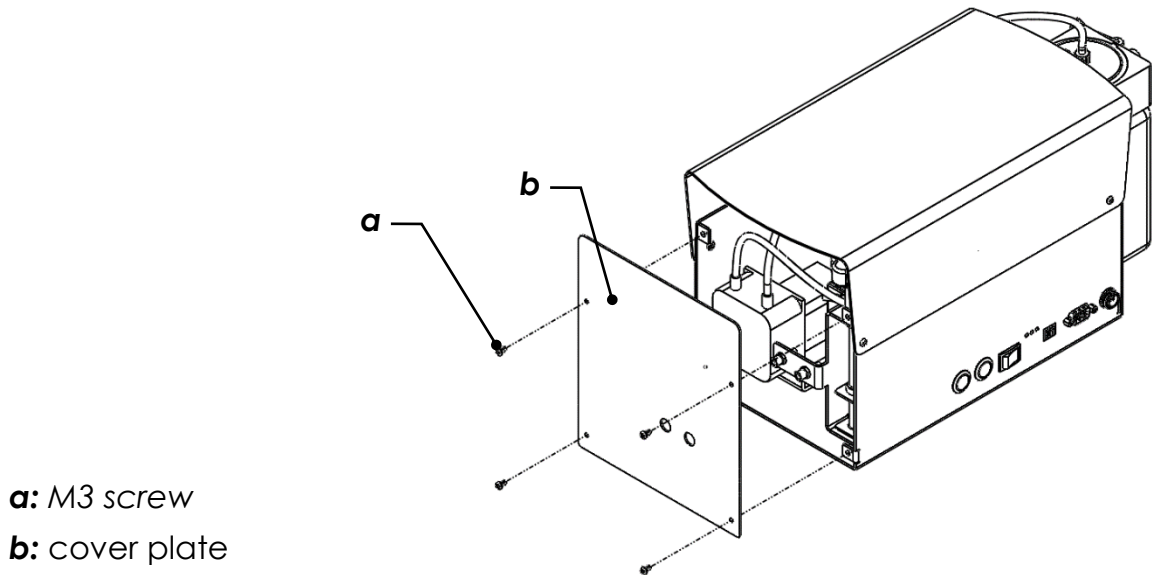

Figure 43
- Unscrew the 4 X M3 screws shown in Figure 43 and take out the cover plate.
After adjusting the tank level, mount the cover plate back in place as shown in Figure 43.